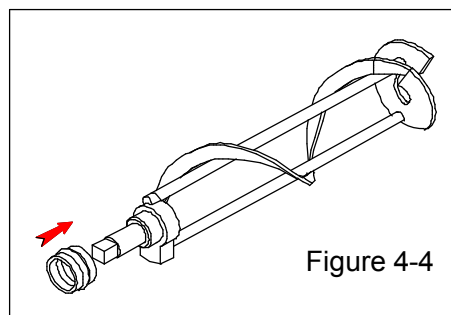

Figure 4-4
- F. Install the beater with the beater seal (Figure 4-4).
K. Press STOP button, then press P button indicate temperature of cylinder and hopper. Figure 4-4